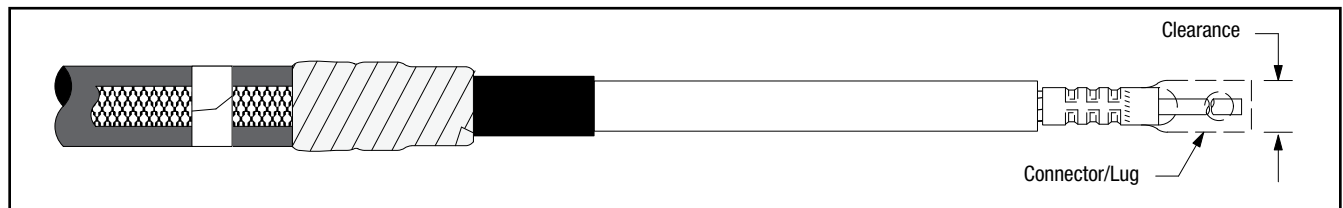

Figure 6
- 4.1 Check to insure 3M™ Cold Shrink QT-III Silicone Rubber Termination assembly fits over the selected lug or connector. (Figure 6) will not fit through the termination core, clean the insulation (per Step 5.0) and slide termination on cable before installing lug or connector. **DO NOT REMOVE CORE AT THIS TIME.**